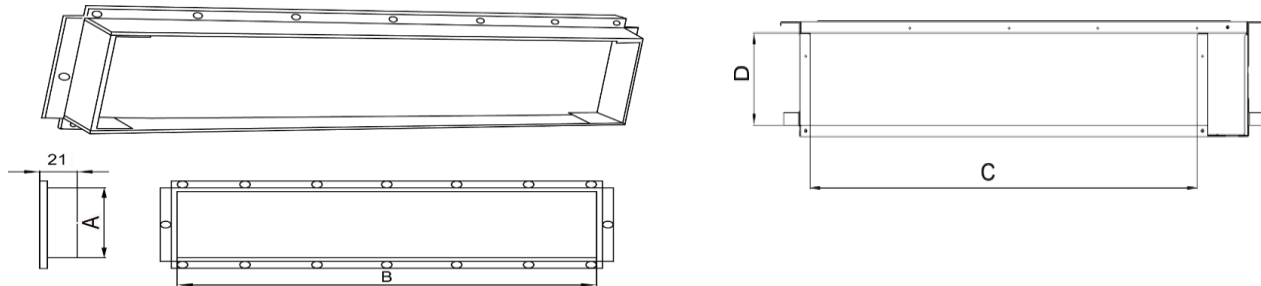

Fig.21 (Air Outlet and Air-return Opening)
2. Shape and Size of Air Outlet and Air-return Opening (Fig21)